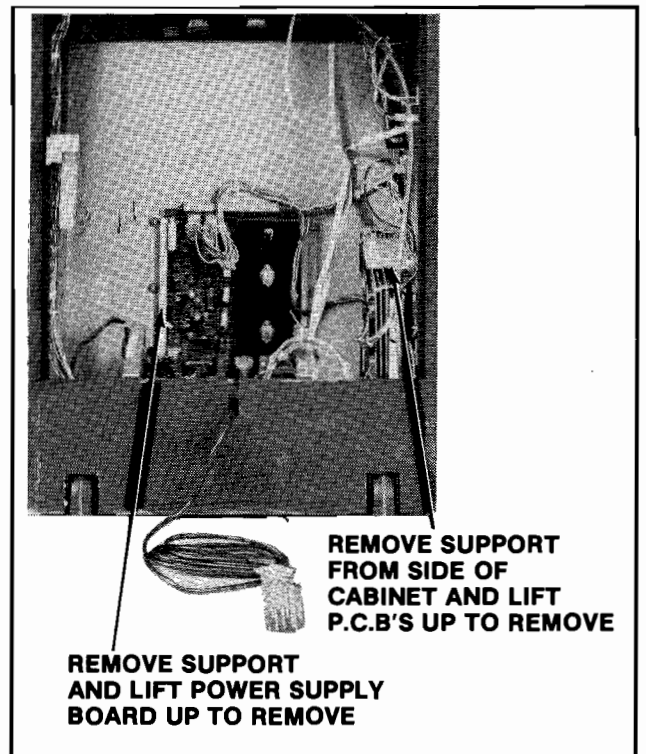

Figure 3-5 Removing the P.C.B.'s
- Disconnect the linear power supply board from all its cabling, remove the P.C.B. support(s) indicated in Figure 3-5, and slide the linear power supply board out the back of the cabinet.